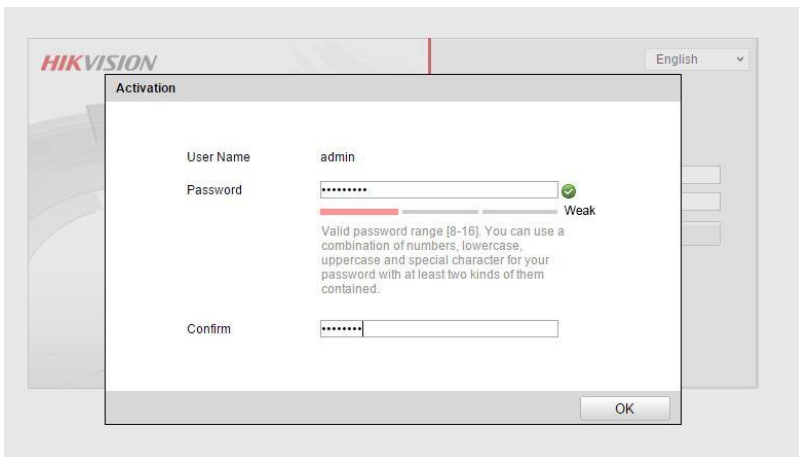

Figure 38 Weak (Acceptable) Strength Password
- Activation will be allowed if the password is of acceptable strength (**Figures 38, 39, 40**). A white checkmark will appear in a green circle to the right of the password field.